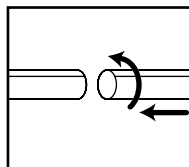

FIGURE 11
15. Attach the extension wands to the accessory end of the hose. Twist slightly to tighten the connection. **FIGURE 11**.
16. Attach one of the cleaning accessories (depending on your cleaning requirements) on the extension wands. Twist slightly to tighten the connection. **FIGURE 11.**